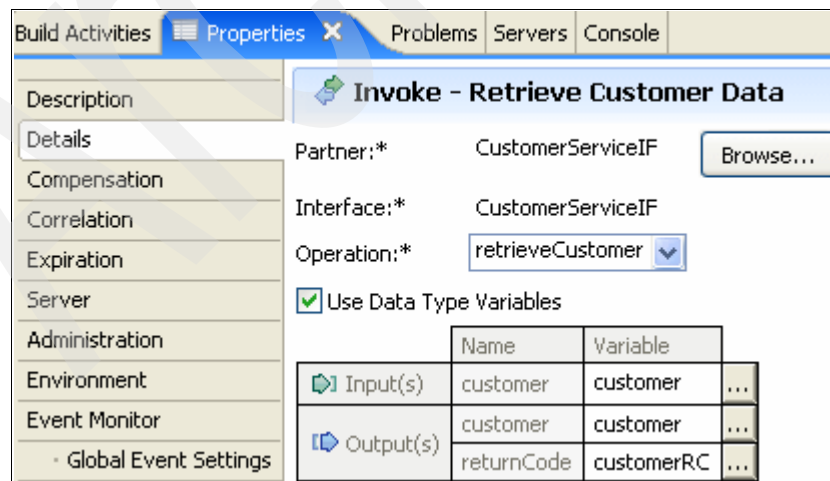

Figure 3-21 Retrieve Customer Data's Properties view
3. Add an Invoke activity into the Order Validation activity. Change the display name to Retrieve Customer Data, and set its properties as shown in Figure 3-21.